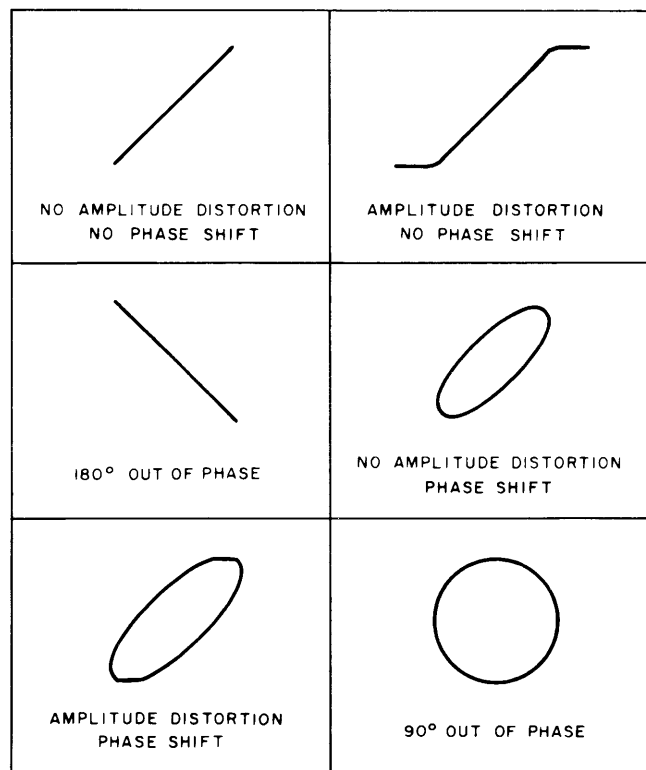

Fig. 40. Typical phase measurement oscilloscope displays.
7. Some typical results are shown in Fig. 40. If the two signals are in phase, the oscilloscope trace is a straight diagonal line. If the vertical and horizontal gain are properly adjusted, this line is at a 45° angle.